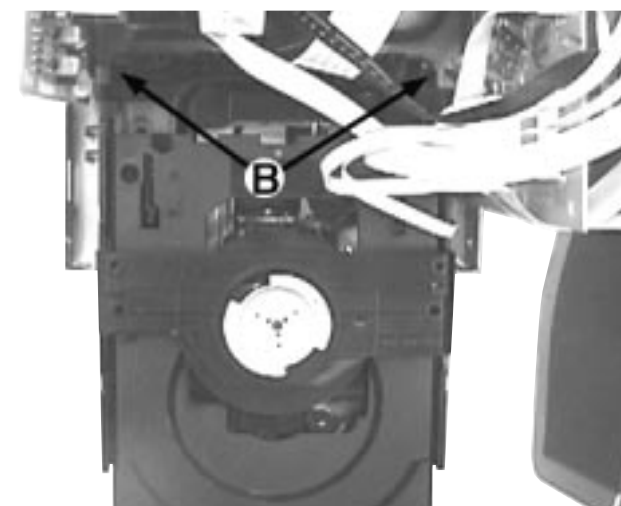

Figure 8
- 4) Remove 2 screws B (pos 225) as shown in Figure 8 to remove the Universal Loader (pos 1109).